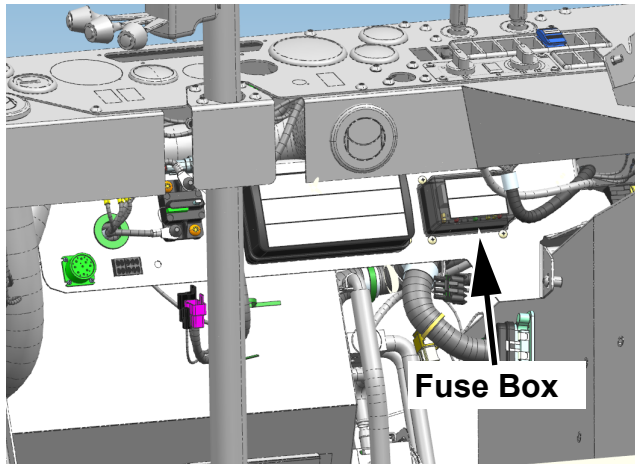

Figure 1
1. Locate the cab fuse box (see Figure 1).